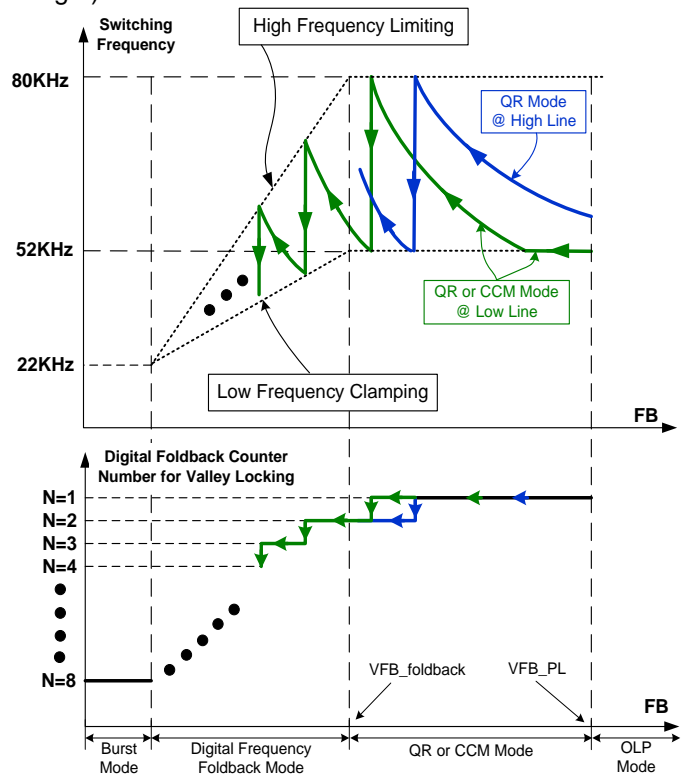
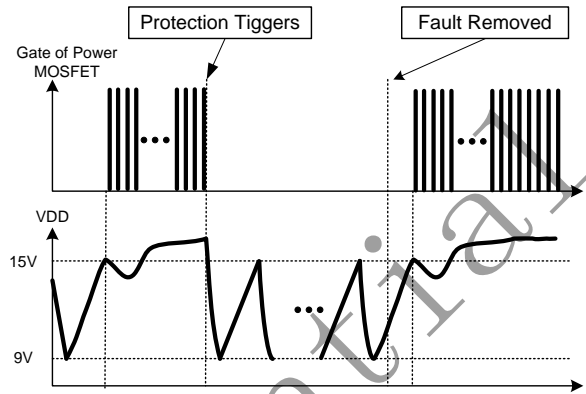

Fig.3
Fig.9
■ At normal or full loading conditions, the operating mode is CCM when the input is in low line range since the low clamping frequency (52KHz typical) is touched. Thus, small size transformer can be used with high power conversion efficiency. When the input is in high line input range, the IC work in QR mode with high frequency clamping (typical 80KHz), as shown in Fig.3. When FB voltage is larger than VFB_PL, the system enters into OLP mode with auto recovery protection (as illustrated in Fig.8 and Fig.9).
VFB_foldback), the IC works in “**Digital Frequency Foldback**” mode. The system frequency is limited between “High Frequency Limiting” and “Low Frequency Clamping”, as shown with the dashed line in Fig.3. In “**Digital Frequency Foldback**” mode, the IC locks the switching valley and selects the valley according to the load changes. There is a counter in SF5877, the IC selects the valleys according to the registered counter number. In SF5877, the maximum counting number is 8.
As shown in Fig.9, once a fault condition is detected, switching will stop. This will cause VDD to fall because no power is delivered from the auxiliary winding. When VDD falls to UVLO(off) (typical 9V), the protection is reset and the operating current reduces to the startup current, which causes VDD to rise, as shown in Fig.9.